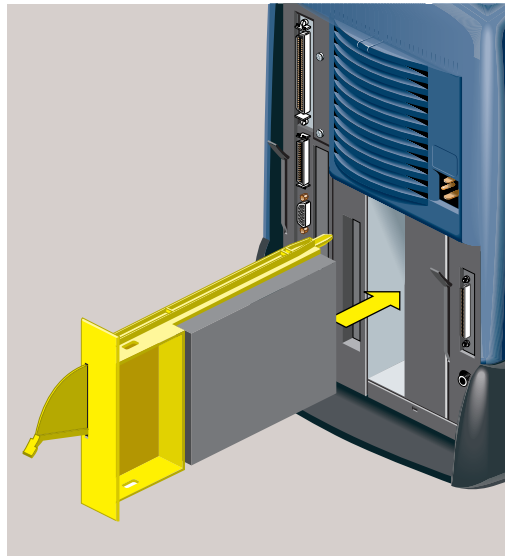

Figure 5-24 Installing the Replacement System Drive Module
5. Slide the replacement system drive module into the system drive bay (Figure 5-24).